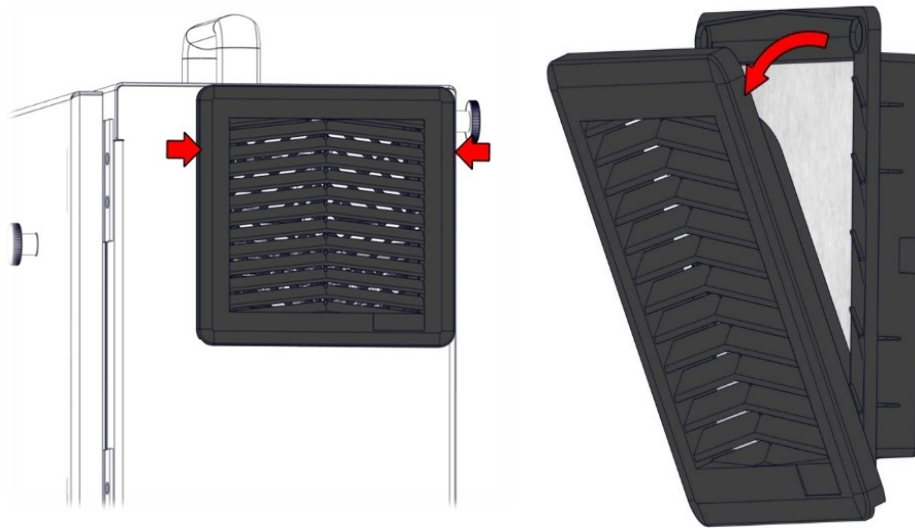

Figure 3.7. Cleaning the control box filters.
1. Gently remove the outer plastic frame by pulling where the red arrows are, as shown in the images below in figure 3.7. The frame tilts outward.